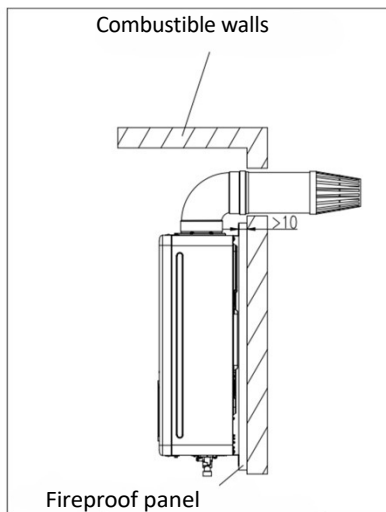

Fig. 8 (Unité : mm)
- When the materials in the installation room are combustible or flammable, a fireproof panel should be used for insulation, a heat-resistant plate and a wall space greater than 10 mm, and the size of the heating plate must be 10 mm larger than that of the water heater shell. (Fig. 8)